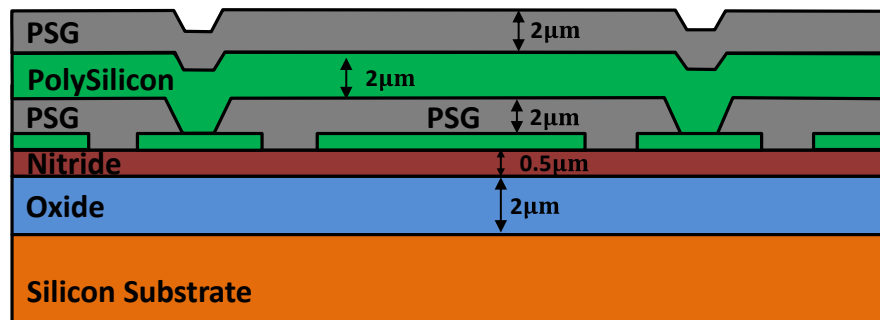

Fig. PS2.2-4
- (h) A polysilicon film can also be phosphorous doped from both sides by using phosphosilicate glass (PSG) films. Figure PS2.2-4 presents a 2 μm -thick polysilicon film sandwiched between two 2 μm -thick PSG layers, each deposited via LPCVD so that they contain 10 wt. % of phosphorous. The wafer is then annealed at 1000°C in an N_2 ambient.